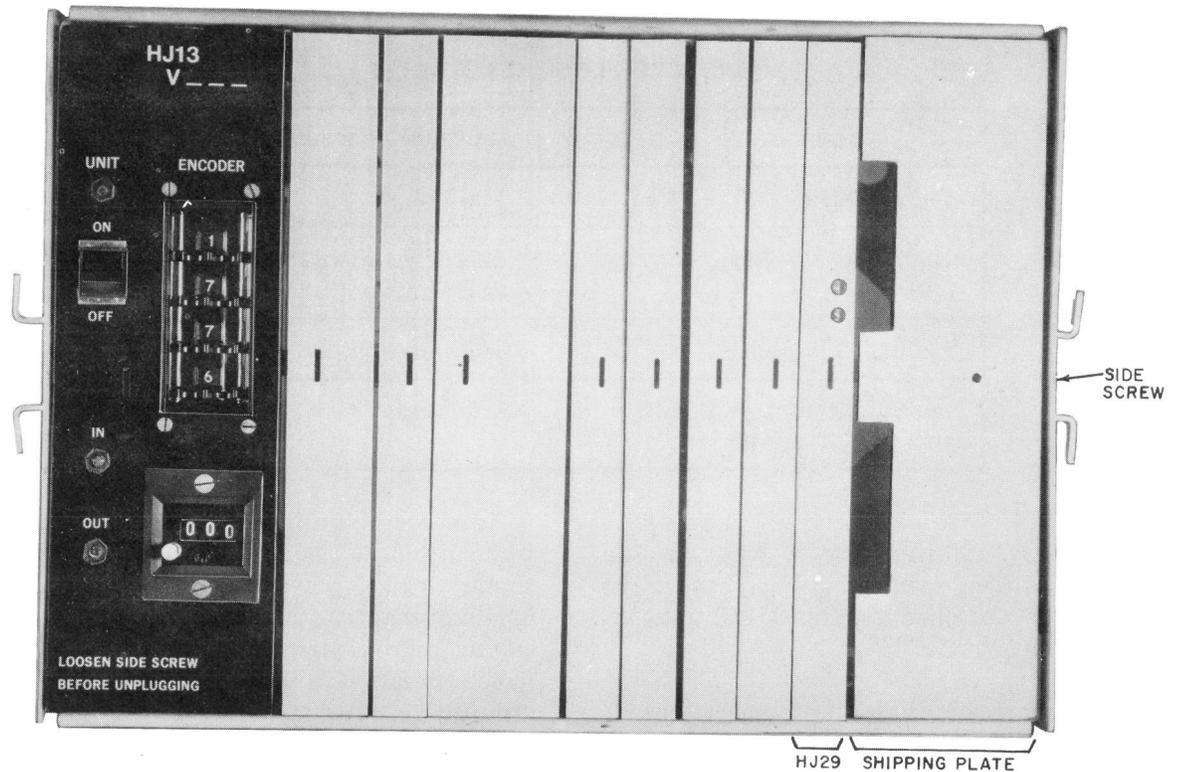

Fig. 19—Remote Access Unit Carrier—Shipping Plate Shown With HJ29 Circuit Pack Installed
4.03 If an HJ29 CP (TOUCH-TONE dialing to dial pulse conversion) is to be installed in the RAU, remove the spacer plate shown in Fig. 18 by removing the screw on the right side. Invert and rotate the spacer plate and install in the RAU with the side screw per Fig. 19. Insert the HJ29 CP in the slot provided (Fig. 19).